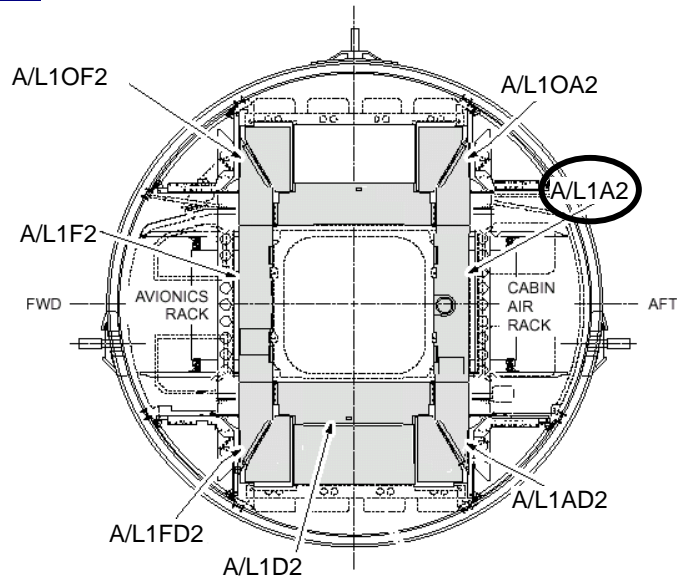

Figure 1.- Airlock Starboard Closeout Panels.
1. Remove Airlock Starboard Closeout Panel A/L1A2 (Ratchet, 1/4" Drive; 5/32" Hex Head, 1/4" Drive). Refer to Figure 1. Temporarily stow Closeout Panel.